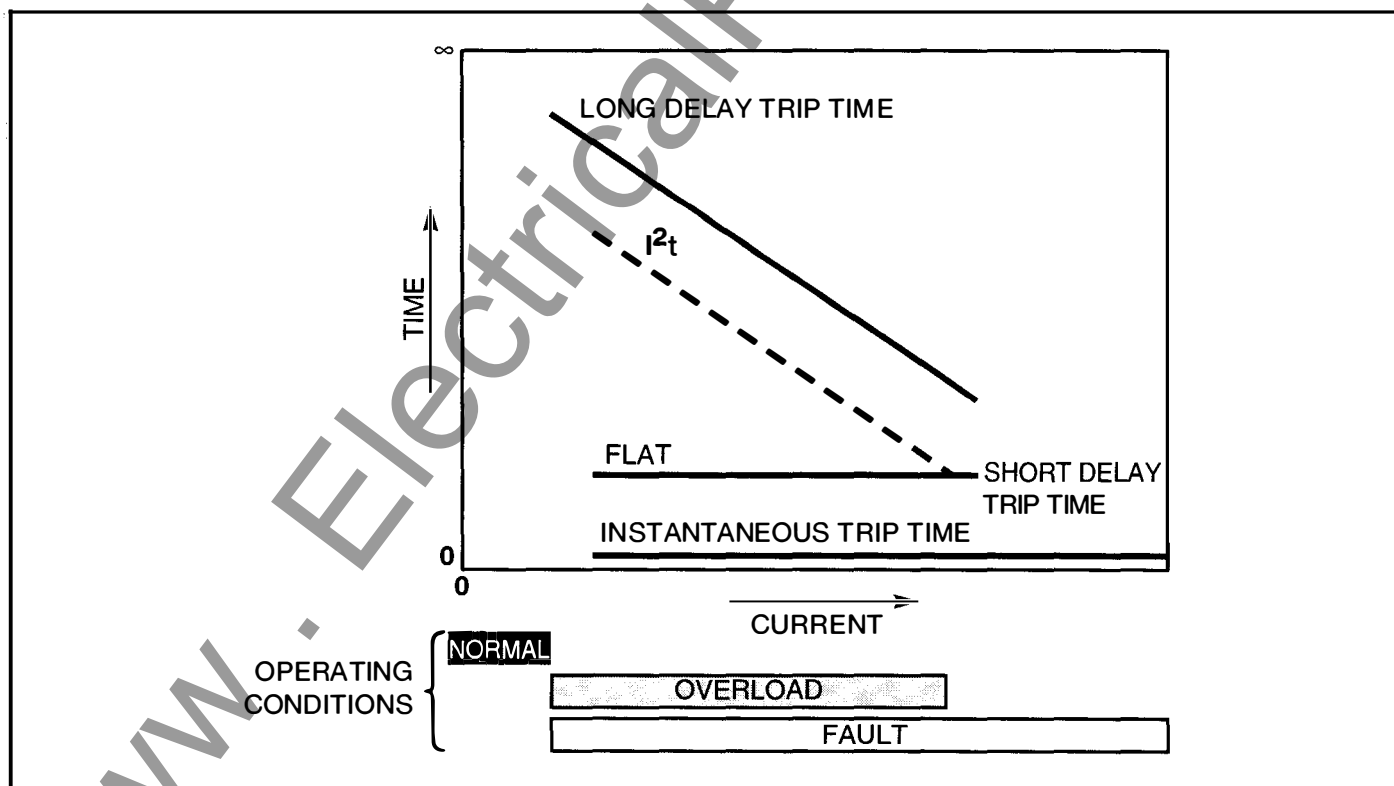

Fig. 14-1 Time-Current Curves
All Digitrip RMS Trip Units are designed to meet the protection requirements of a modern power distribution system. As is shown in Figure 14-1, Application Current Levels can be broken into three typical regions:
Digitrip RMS Trip Units, when set up according to the results of a Power System study of the specific distribution system on which they are applied, will respond to various current levels to provide accurate system protection as well as maximum system stability by properly coordinating with upstream and downstream devices (Figure 14-1).
- For NORMAL currents, the Trip Unit will accurately monitor the current, regardless of current waveform (due to its true RMS sensing system), assuring that up to full rated current may flow through the system without falsely tripping the breaker. This is shown as the NORMAL OPERATING CONDITION in Figure 14-1.
- For OVERLOAD currents, the Trip Unit will accurately assess the true heating value of the current (again a distinct advantage of its true RMS sensing system), and trip out following the LONG DELAY TRIP TIME curve in Figure 14-1. There are actually eight different LONG DELAY TRIP TIME curves available on the Trip Unit (selected by the Long Delay Time switch setting), and each curve follows a constant I^2t slope for excellent heating protection and coordination with other devices. The lowest level of OVERLOAD current to bring on this response is selected by the Long Delay Pickup setting on the Trip Unit.
- For FAULT currents, the Trip Unit will respond according to either the SHORT DELAY TRIP TIME or the INSTANTANEOUS TRIP TIME shown in Figure 14-1, depending on the fault current magnitude and whether the Short Delay function or Instantaneous function or both are present on the Trip Unit.
The SHORT DELAY TRIP TIME curve in Figure 14-1 shows the time to trip response of the Trip Unit to FAULT currents. There are actually eight different SHORT DELAY TRIP TIME curves available on the Trip Unit (selected by the Short Time switch setting), three of which follow a constant I^2t slope for best coordination with downstream devices, five of which are FLAT (fixed trip time). The lowest level of FAULT current to bring on this response is selected by the Short Delay Pickup setting on the Trip Unit.
The INSTANTANEOUS TRIP TIME curve in Figure 14-1 shows the time to trip response of the Trip Unit to FAULT currents. This curve is FLAT, providing the most rapid trip time possible (with no intentional delay) to be able to clear the fault as fast as possible and minimize the damage to the system. The lowest level of FAULT current to bring on this response is selected by the Instantaneous Pickup setting on the Trip Unit.